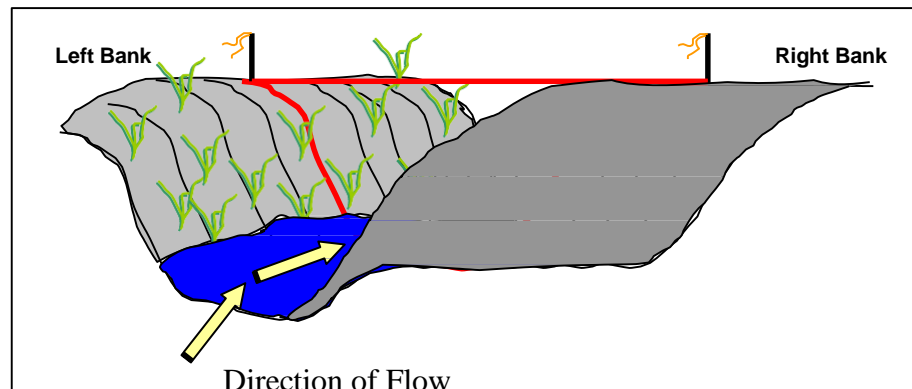

Figure 5 – The left and right banks are determined by facing downstream
- Remove PVC pipes to reveal rebar benchmarks, then attach the measuring tape’s metal hook to the rebar benchmark on the left bank (determine left bank by looking downstream) (Figure 5), stretch the tape tight across to the rebar benchmark on the right bank, and fasten by wrapping the tape around the rebar then knotting.